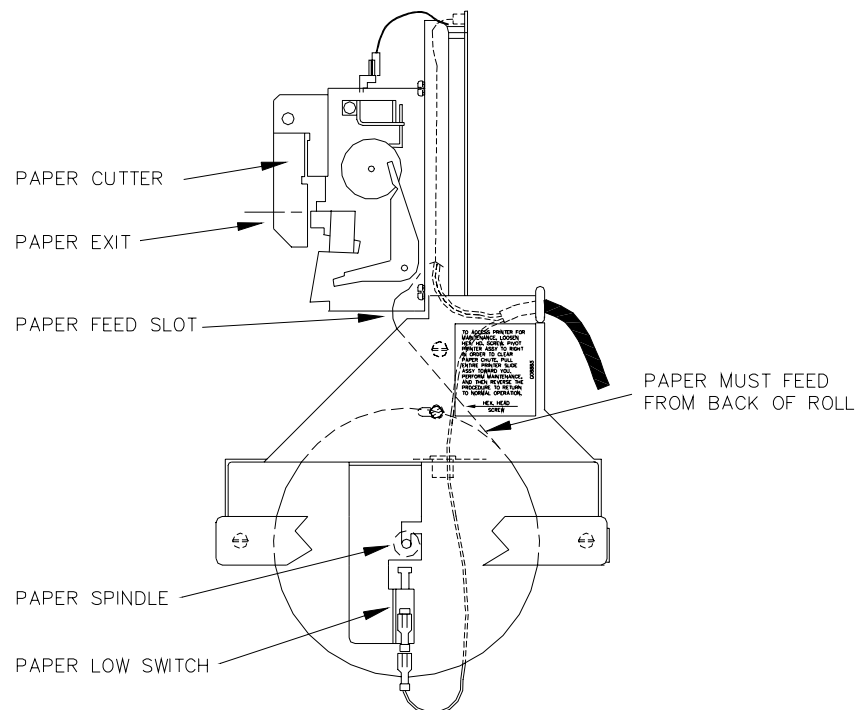

Figure 25-4. Printer Side View
5. Make sure the paper feeds easily out of the paper cutter. Figure 25-4 shows a side view of the paper path.